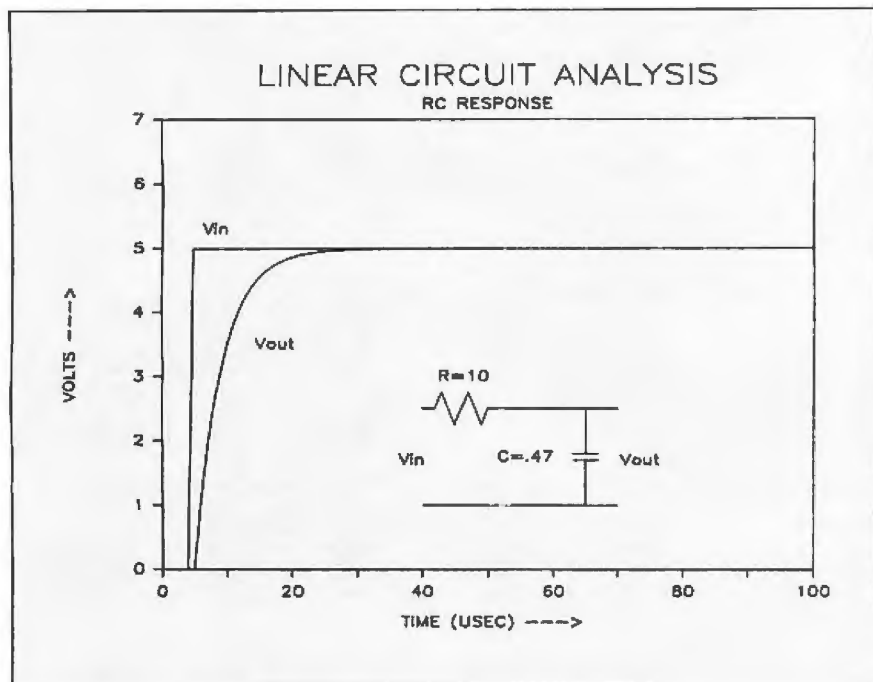

Figure 6: Schematic and voltage-versus-time graph of RC circuit.
For example, let's look at the simple circuit of figure 6. The capacitor C is charged through the resistor R . What is the resulting response to a step input V_{in} ? Those with circuit experience will recognize that the capacitor does not change voltage instantaneously; it charges up at a rate related to the amount of current flowing into it through the resistor. This is the behavior shown by V_{out} , the output voltage taken across the capacitor.
The spreadsheet that generates figure 6 is shown in figure 7; it is similar to the sheet that generated figure 4. The section added at the top describes the circuit operating conditions. The input is a 5-volt (V) step, stored in cell E2. The resistor and capacitor values are in cells E4 and E5.
For clarity, the output voltage V_{out} is given its own row, 18. This is identical to the capacitor voltage, VC . Note how the value of V_{out} builds up as time progresses from column P through column X. Figure 6 plots the input voltage V_{in} from row 14 and the output voltage V_{out} from row 18.
Since there is quite a bit to label in figure 6, two rows have been added for labeling, rows 20 and 21. The C curve allows us to spot unplotted points and to plot line segments on